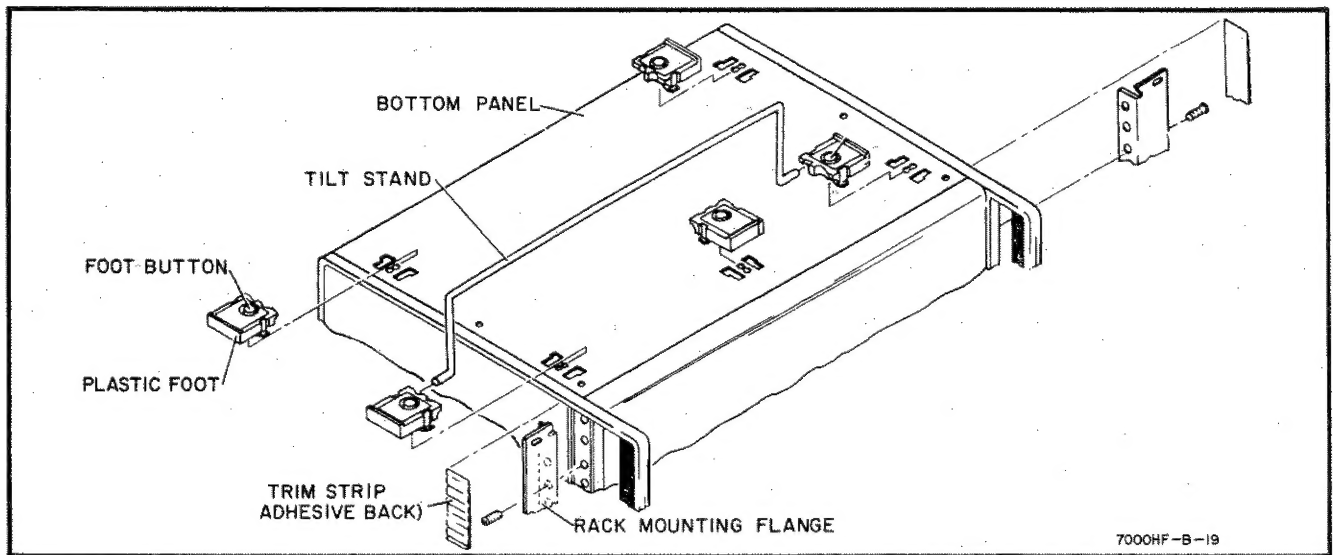

Figure 2-1. Bench/Rack-Mount Conversion
**2-16. RACK MOUNTING.** A kit for converting the Model 181AR to a rack mount is supplied with each instrument. Instructions for making the conversion are given below. Refer to Figure 2-1 for parts identification.